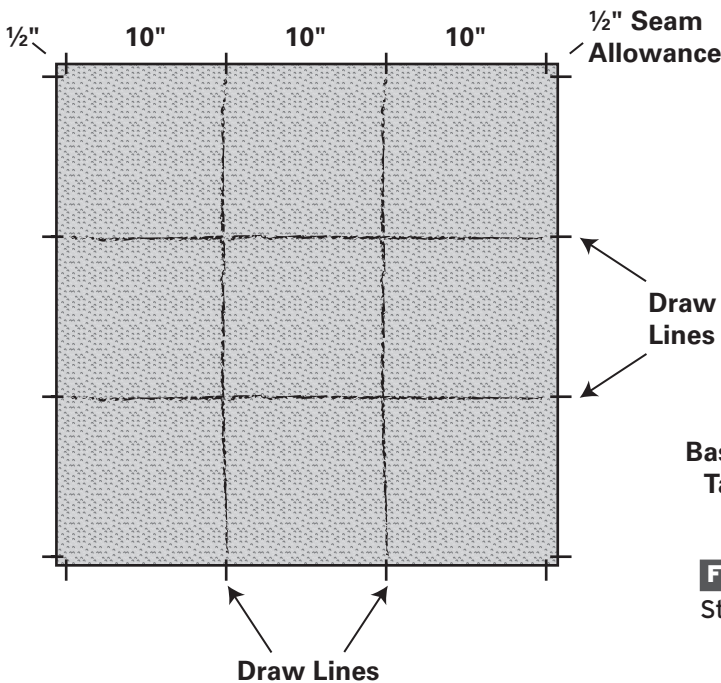

Fig. 14-2
3. On one cushion panel, measure between the ½-inch (1.3-cm) seam allowances and mark each edge of the panel in thirds. Draw lines connecting the marks. Each of the intersecting lines will be 10 inches (25.5 cm) apart. (Fig. 14-2) These lines will be used as ribbon placement lines for the game board on the cushion.